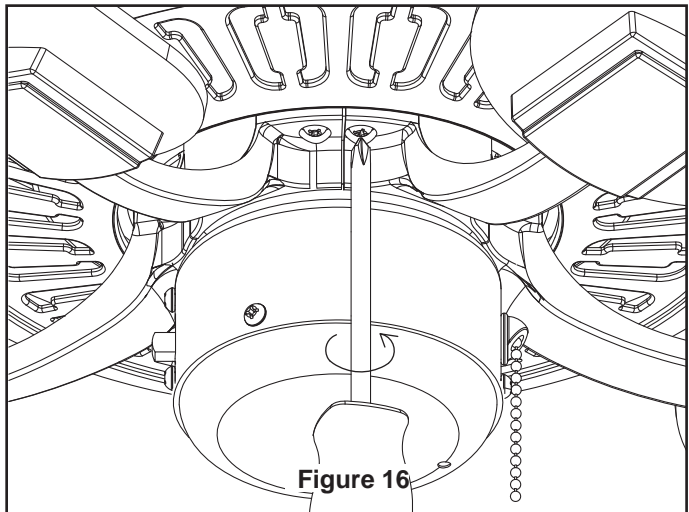

Figure 16
2. Secure the blade holders to the motor support using the 1/4-20 x 14 mm screws through the holes located on the side of the motor support. (Figure 16)